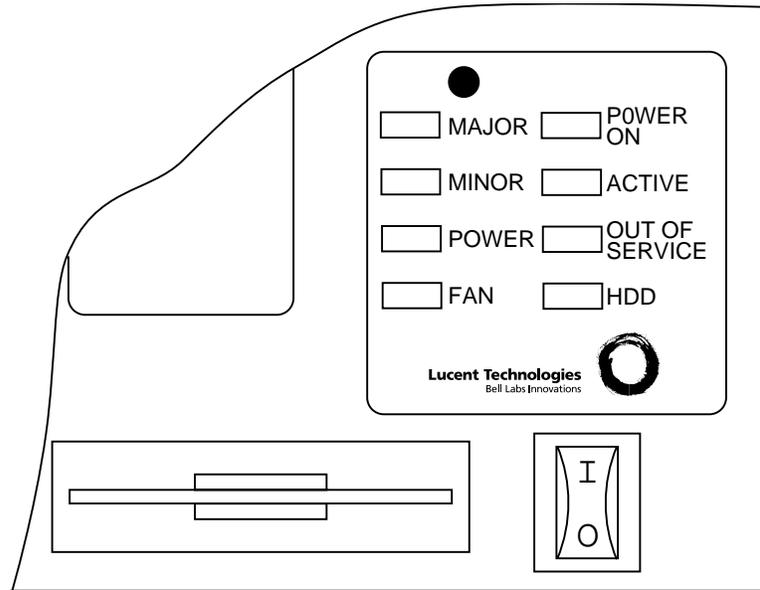

Figure 1. The CDSU-II Control Panel
3. Remove power from the CDSU-II by moving the **ON/OFF** switch on the CDSU-II control panel (see Figure 1) to the OFF position.